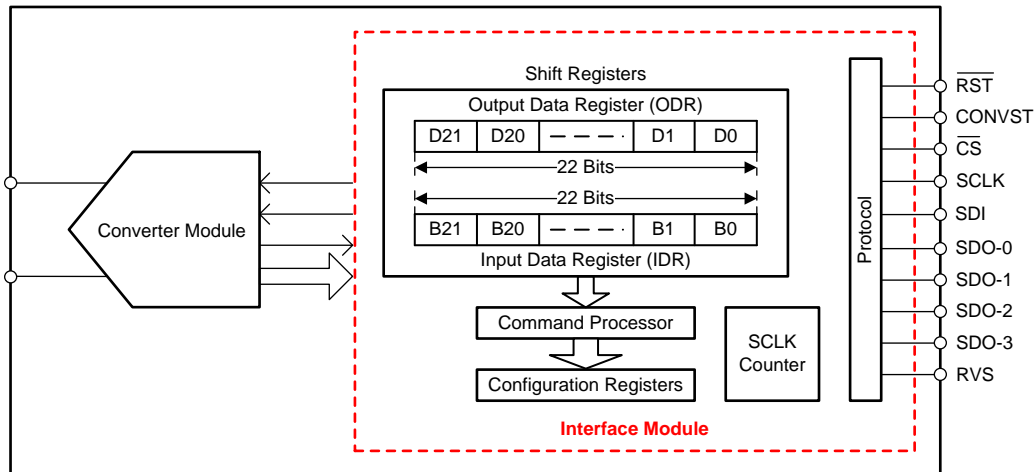
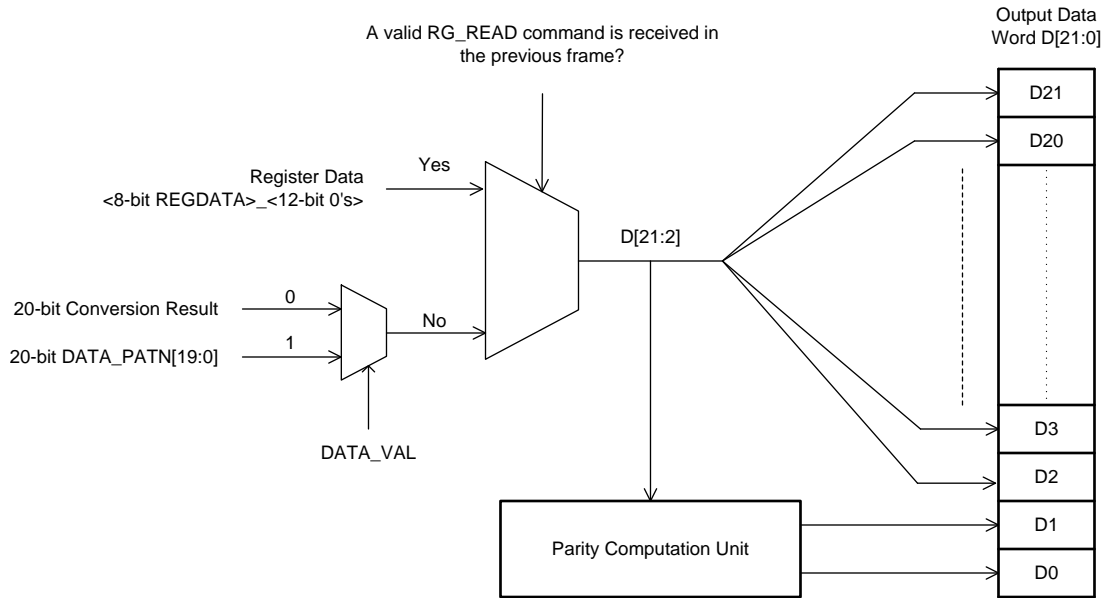
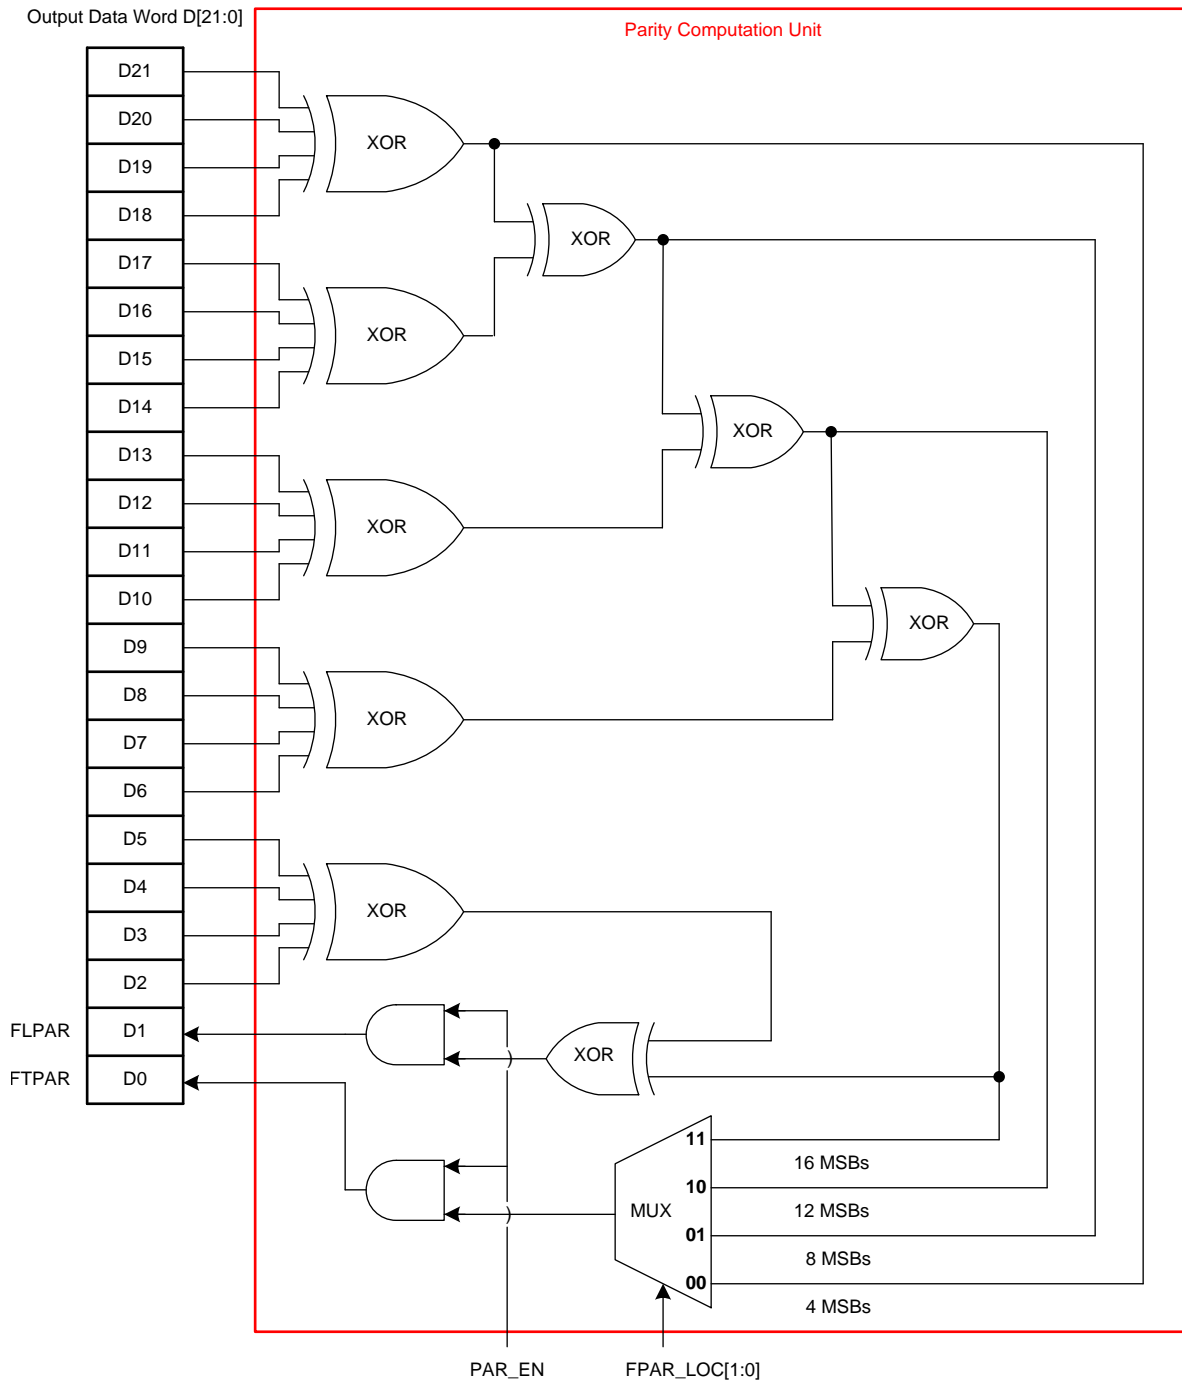
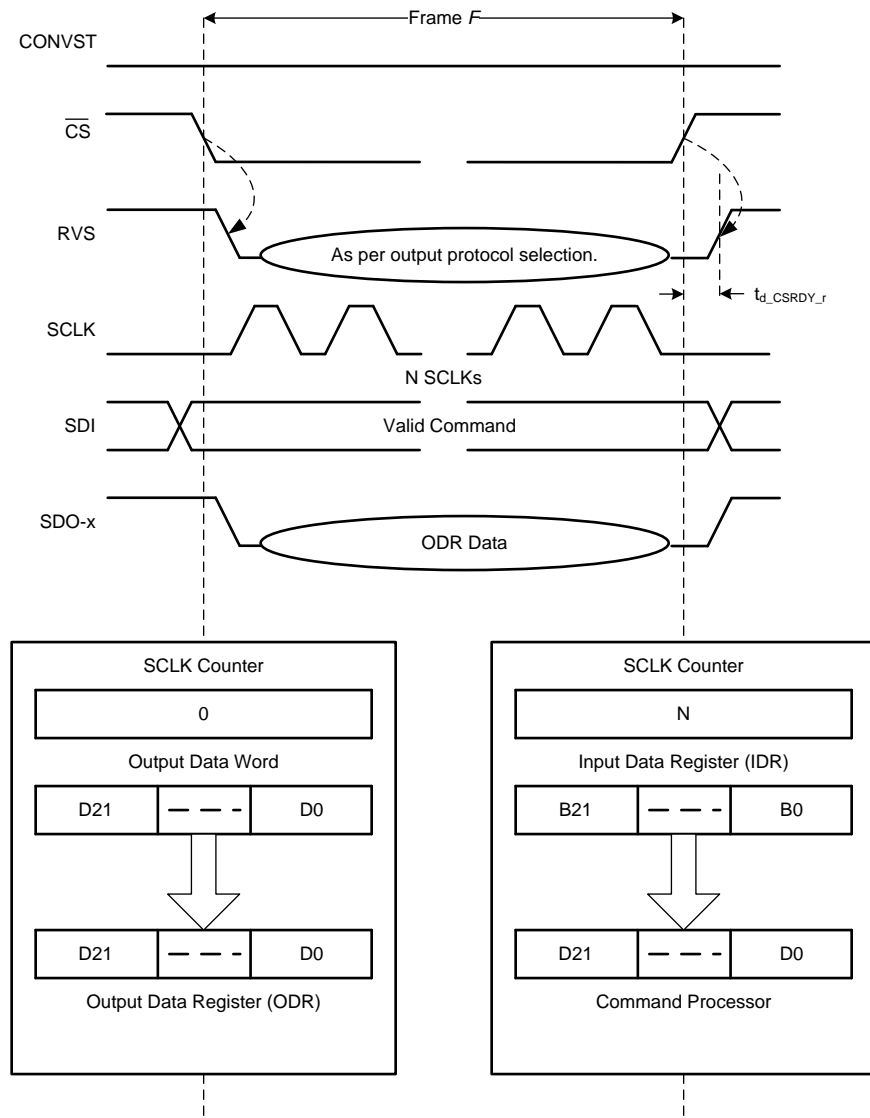

Figure 39. Interface Module
Figure 43. Output Data Word (D[21:0])
Figure 44. Parity Bits Computation
Figure 45. Data Transfer Frame
The interface module facilitates the communication and data transfer between the device and the host controller. As shown in Figure 39, the module consists of shift registers (both input and output), configuration registers, and a protocol unit.
Figure 43 shows the output data word. Figure 44 shows further details of the parity computation unit illustrated in Figure 43.
A data transfer frame between the device and the host controller is bounded between a $\overline{\text{CS}}$ falling edge and the subsequent $\overline{\text{CS}}$ rising edge. The host controller can initiate a data transfer frame (as shown in Figure 45) at any time irrespective of the status of the CONVST signal; however, the data read during such a data transfer frame is a function of relative timing between the CONVST and $\overline{\text{CS}}$ signals.
- The device takes control of the data bus. As shown in Figure 45, the 22-bit contents of the output data word (see Figure 43) are loaded in to the 22-bit output data register (ODR; see Figure 39).
- The 22-bit input data register (IDR; see Figure 39) is reset to 00000h, corresponding to a NOP command.
- As illustrated in Figure 45, the 22-bit contents of the IDR are transferred to the command processor (see Figure 39) for decoding and further action.
In a short command frame, the write operation to the device is invalidated; however, the output data bits transferred during the short command frame are still valid output data. Therefore, the host controller can use such shorter data transfer frames to read only the required number of MSB bits from the 22-bit output data word. As shown in Figure 43, an *optimal read frame* for the ADS890xB devices must read only the 20 MSB bits of the output data word. The length of an optimal read frame depends on the output protocol selection; see the Protocols for Reading From the Device section for more details.